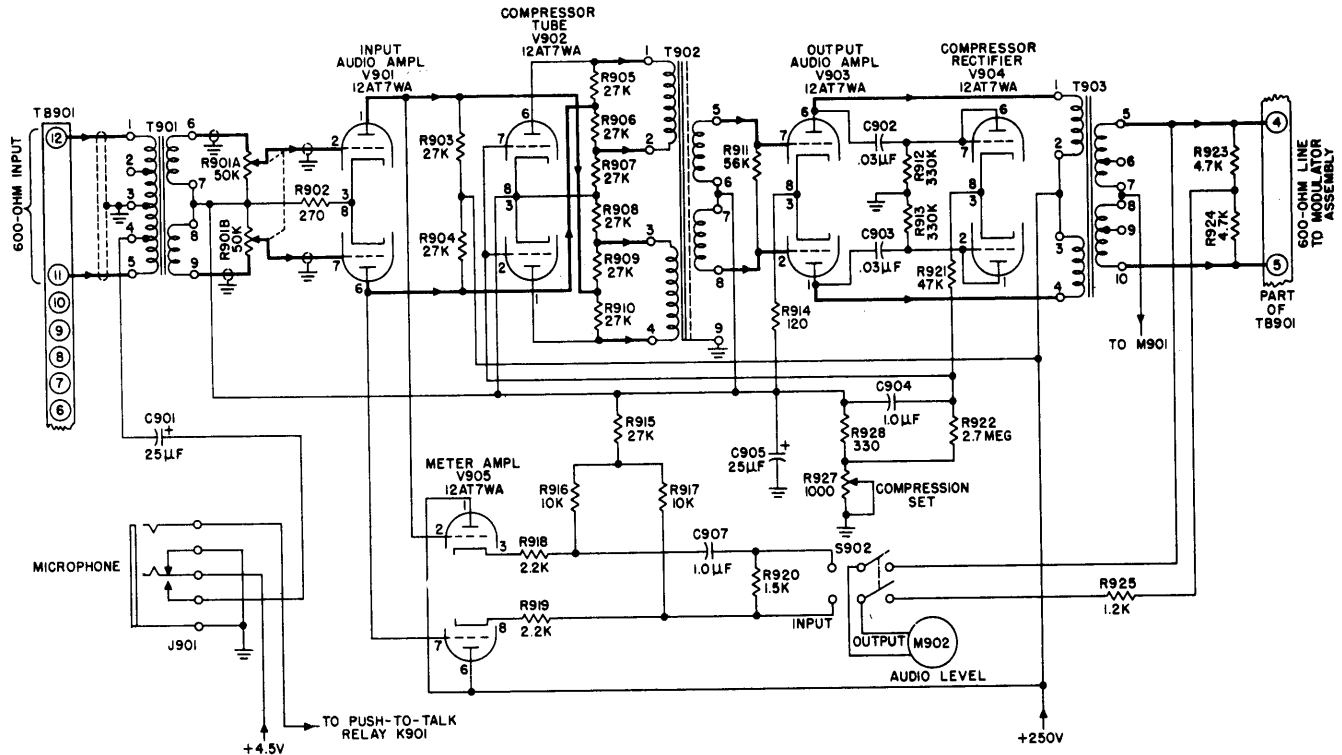

Figure 2-31. Transmitter Control Audio Circuits, Simplified Schematic
(1) INPUT AUDIO AMPLIFIER (see figure 2-31).—The input audio amplifier (V901) employs a JAN 12AT7WA miniature dual-triode tube, which is operated as a Class-A push-pull voltage amplifier using cathode bias. Two inputs are provided for this stage—a jack for a carbon microphone and terminals for a 600-ohm balanced input. The MICROPHONE jack (J901) is supplied with power from taps on the power-supply bleeder system (R929 through R937), and is coupled through capacitor C901 to a portion of the primary winding of input transformer T901. The complete primary winding of the transformer, representing a balanced 600-ohm input, is connected to terminals 11 and 12 of terminal board TB901, which is located on the rear of the chassis. A dual AUDIO GAIN control (R901A and R901B) is incorporated into the grid circuit of the input audio amplifier so that the input level to the amplifier may be adjusted. The plate circuits of V901 are connected in a balanced push-pull arrangement, by means of plate load resistors R903 and R904, and are connected directly to an audio bridge circuit contained in compressor stage V902.
(2) OUTPUT AUDIO AMPLIFIER (see figure 2-31).—The output audio amplifier (V903) employs a JAN 12AT7WA miniature dual-triode tube, which is operated as a Class-A push-pull voltage amplifier using cathode bias. The input
(3) COMPRESSOR RECTIFIER (see figure 2-31).—A JAN 12AT7WA miniature dual-triode tube is used in the compressor rectifier stage (V904) and is connected as a full-wave, biased rectifier. The value of positive bias applied to the cathodes of this stage is determined by the setting of COMPRESSION SET adjustment R927. Since the plates and grids of this rectifier are fed a signal from the plates of the output audio amplifier, the rectifier will conduct whenever the audio output signal exceeds the bias level, and the positive bias across resistor R922 will increase. The additional positive bias thus developed is used to control the action in compressor stage V902.
(5) AUDIO METERING CIRCUIT (see figure 2-31).—The AUDIO LEVEL meter (M902) is a rectifier-type VU meter. This meter may be connected into either the input or output circuit of the amplifier by placing INPUT-OUTPUT switch S902 in the appropriate position. With the switch in the OUTPUT position, the meter is connected into the secondary-winding circuit of transformer T903. With the switch in the INPUT position, the meter is connected into the cathode circuit of a push-pull cathode follower, a JAN 12AT7WA miniature dual-triode tube (V905), which is direct-coupled to the plates of input audio amplifier V901.
d. TELEPHONE SET TA-267/U (see figure 2-35).—Except for certain modifications, the Telephone Set (shown in figure 1-17) is similar in function to any ordinary commercial telephone. (Symbol designations for the Telephone Set should not be confused with similar designations given for the Power Control Assembly.) The base of the unit contains dial switch S502, which is connected in parallel with S903 and TB902 of Transmitter Control C-1362/FRT-24 by means of terminal board E501 and a seven-conductor shielded cable so that the function of this switch in channel, emission, and power selection is identical with that of the dial switch of the latter unit. The base also contains a KEY receptacle (J501) to provide a means of introducing a telegraph key, if the operator wishes to employ the transmitter for c-w operation. When handset HS501 is picked up from the base, microphone voltage is applied to the carbon-button type mouthpiece through closed contacts (2) of hook or enabling switch S501 (provided that an open-circuit or dummy plug has been inserted in MICROPHONE jack J901 so as to apply 4.5 volts, dc, to terminal E501, and to complete the input circuit through capacitor C901 to input transformer T901, as shown in figure 2-31). The capacitor across the microphone prevents carbon-granule packing due to loud noises or physical impact. The push-to-talk switch of